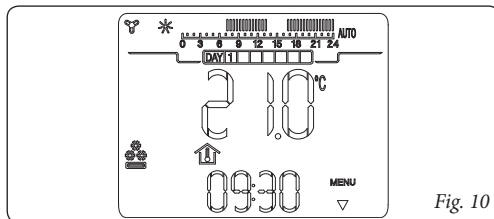

Fig. 10
- **Chiller control mode (❄️).** It is possible to enable CRONO 7 on control of a chiller for cooling environments (for enabling of this function, see par. 9.3). In "cooling" mode the CRONO 7 can function in automatic or manual mode. For the description of functioning see chapter 6. The display shows the day and current time, the room temperature and the hour bar with the daily programming of the cooling timer along with the relative symbols (fig. 10).